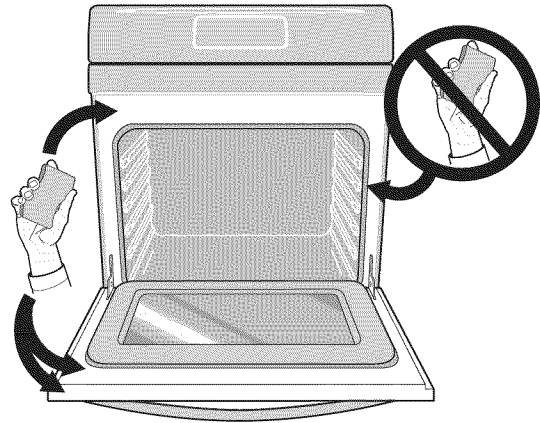

Figure 47: Oven door area to clean and not clean (gasket)
- Clean any soil from the oven frame, the door liner outside the oven door gasket and the small area at the front center of the oven bottom (Figure 47). These areas heat sufficiently to burn soil on. Clean using soap and water prior to starting Self Clean.
- Do not clean the oven door gasket (Figure 47). The woven material of the oven door gasket is essential for a good seal. Care should be taken not to rub, damage, or remove the gasket. Do not use any cleaning materials on the oven door gasket. Doing so could cause damage to the door gasket.